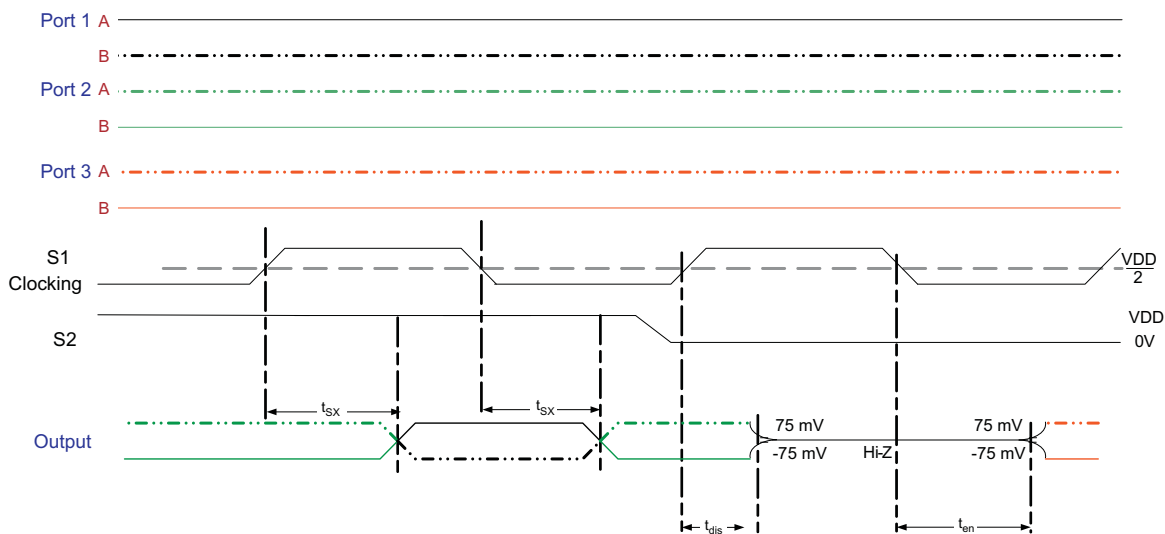

Figure 6. TMD5 Outputs Control Timing Definitions
A. Channels 2, 3, 4, $V_{CC} = AV_{CC} = 3.3\text{ V}$, $T_A = 25^\circ\text{C}$, $R_{VSADJ} = 4.02\text{ k}\Omega$, See Figure 6
A. Channel 1, $V_{CC} = AV_{CC} = 3.3\text{ V}$, $T_A = 25^\circ\text{C}$, $R_{VSADJ} = 4.02\text{ k}\Omega$, See Figure 6
A. 1080p 10-Bit, $V_{CC} = AV_{CC} = 3.3$ V, $T_A = 25^\circ\text{C}$, $R_{VSADJ} = 4.02$ k Ω , See Figure 6, Clock Channel = 185.6 MHz, Data Channel = 1.856 Gbps
A. 1080p 12-Bit, $V_{CC} = AV_{CC} = 3.3$ V, $T_A = 25^\circ\text{C}$, $R_{VSADJ} = 4.02$ k Ω , See Figure 6, Clock Channel = 222.8 MHz, Data Channel = 2.228 Gbps